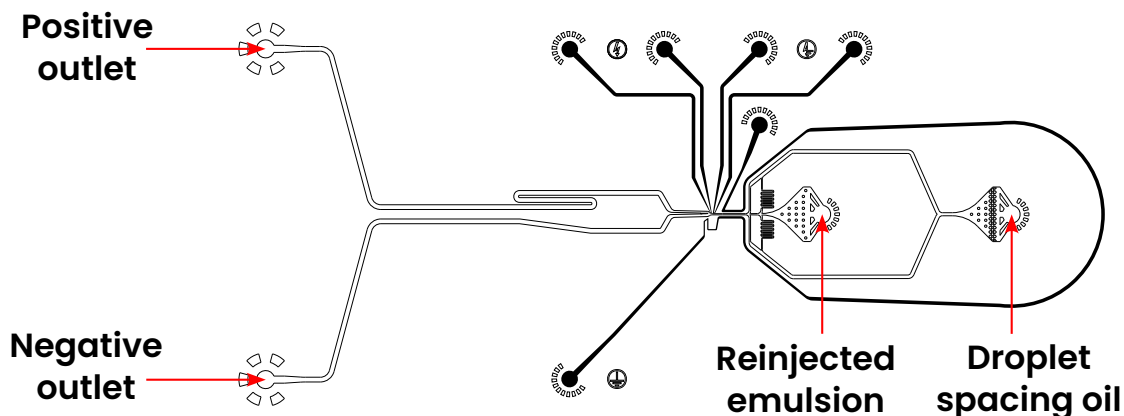

Figure 10: MCY-R1 chip design.
- Use your fingers or forceps to insert each tubing into the corresponding microfluidic chip ports (Fig. 10).